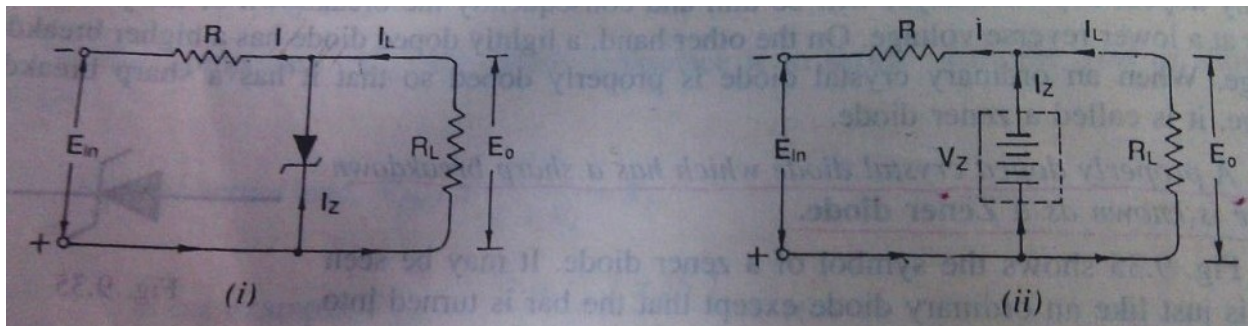

Figure 1.2.19.
A zener diode can be used as a voltage regulator to provide a constant voltage from a source whose voltage may vary over sufficient range. The circuit arrangement is shown in Figure 1.2.19. The zener diode of zener voltage V_Z is reverse connected across the load R_L across which constant output is desired. The series resistance R absorbs the output voltage fluctuations so as to maintain constant voltage across the load. Zener diode will maintain a constant voltage $V_Z = E_O$ across the load so long as the input voltage does not fall below V_Z .
1. **Input voltage increases:** Since the zener is in breakdown region, the zener diode is equivalent to a battery V_Z as shown in Figure 1.2.19(i). It is clear that output voltage remains constant at $V_Z = E_O$. The excess voltage is dropped across the series resistance R . This will cause an increase in the value of total current I . The zener will conduct the increased current while the load current remains constant. Hence, output voltage remains constant.